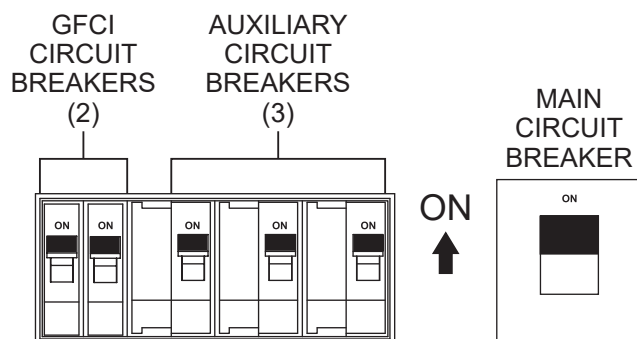

Figure 56. Main, Auxiliary, And GFCI Circuit Breakers (ON)
12. Place the **main, auxiliary, and GFCI** circuit breakers in the **ON** position (Figure 56).